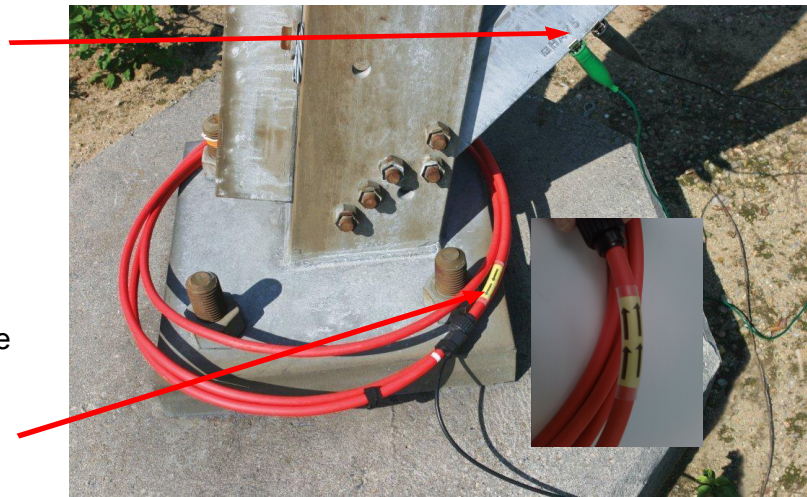

Figure 1
Connect green Current (E) and black Voltage (ES) test leads to the grounding system to be tested using separate cables. Connection points should be side by side and above the GroundFlex® (Rogowski) coil when testing tower leg resistance/Impedance. See Figure 1